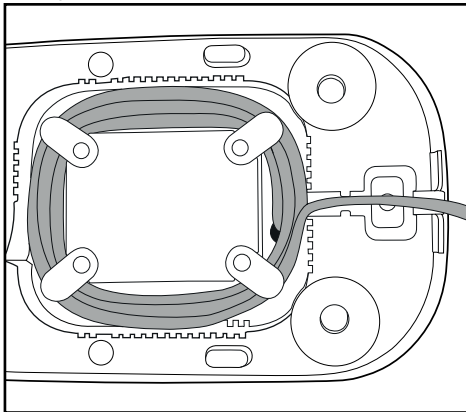

Fig. 3: Cable retainer
- Wind the power cable **4** around the cable retainer on the underside of the appliance (Fig. 3):